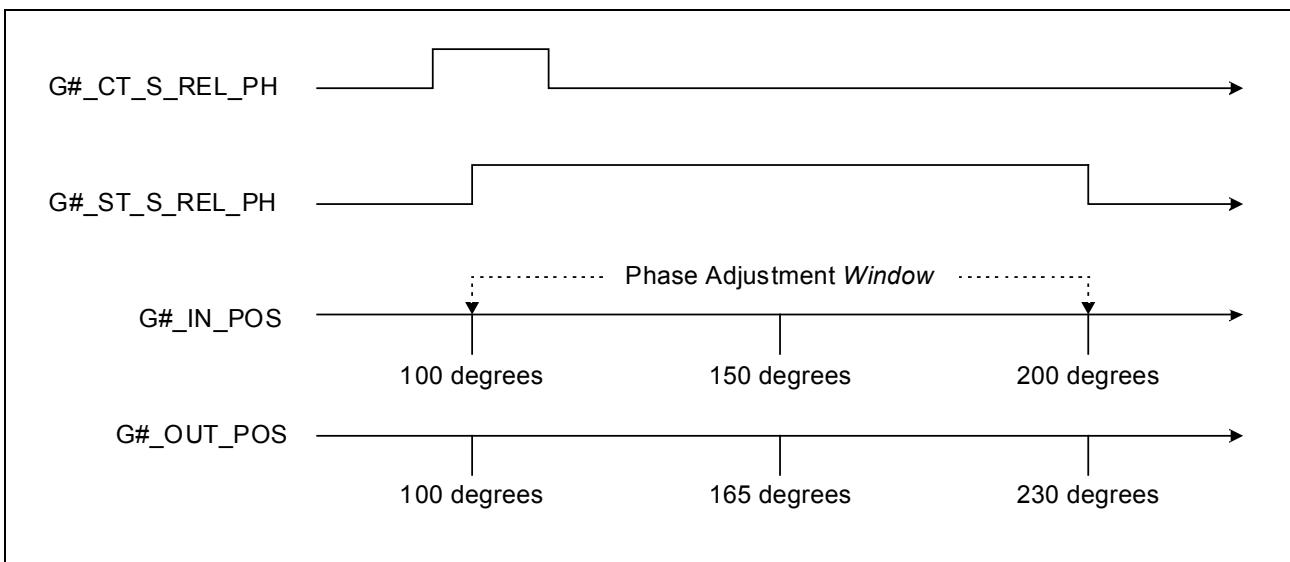

Fig. 6-36: ELS Group Master Following Phase Adjust Example
In the example of Fig. 6-36 (above), G#_ABS_S_PH is assumed to be 30°, G#_MST_DIST_S_PH is assumed to be 100°, and G#_CT_MSTR_FOL_PH is assumed to be set (1).